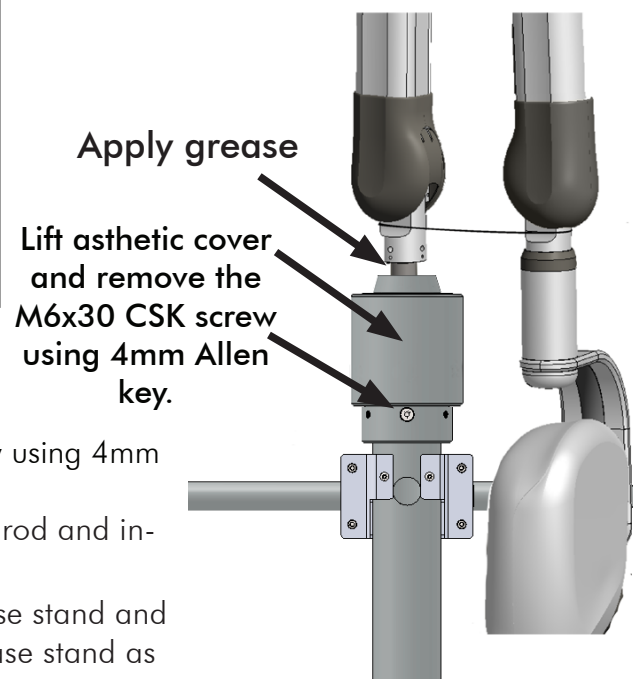

Figure 6
- Lift asthetic cover and remove the M6x30 CSK screw using 4mm Allen key as shown in Figure 6.
- Apply thin layer of Grease to the Scissor-Arm guide rod and inner area of base stand as shown in Figure 6.
- Insert the scissor-arm cables into top hole of the base stand and simultaneously pull out from the front hole of the base stand as shown in Figure 6 (If required use the guide wire).